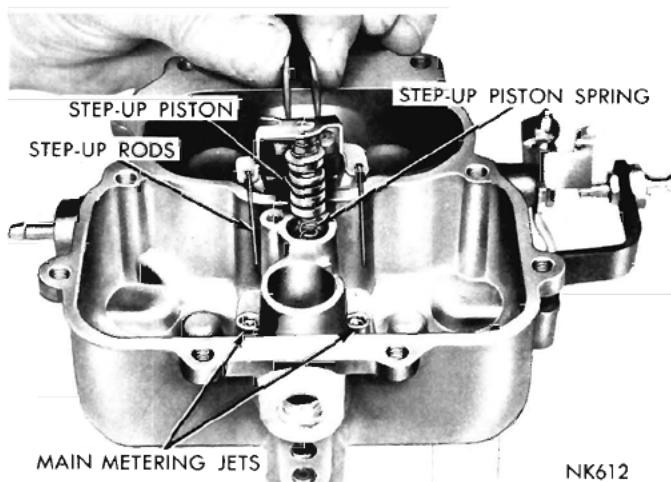

Fig. 2—Removing or Installing the Step-Up Piston
(9) Remove the fuel inlet needle valve, seat and gasket from the main body.
(10) Lift out the float fulcrum pin retainer, and lift out the floats and fulcrum pin.
(11) Remove the step-up piston and retaining screw and slide the step-up piston and rods out of well, as shown in (Fig. 2). Lift out the step-up piston spring.
(8) Slide the step-up piston gasket down into position in the piston well, then install the step-up piston spring, step-up piston and rods. Carefully guide the step-up rods into the main metering jets (Fig. 2). Install the retaining screw and tighten securely. Check piston for free operation in the well.